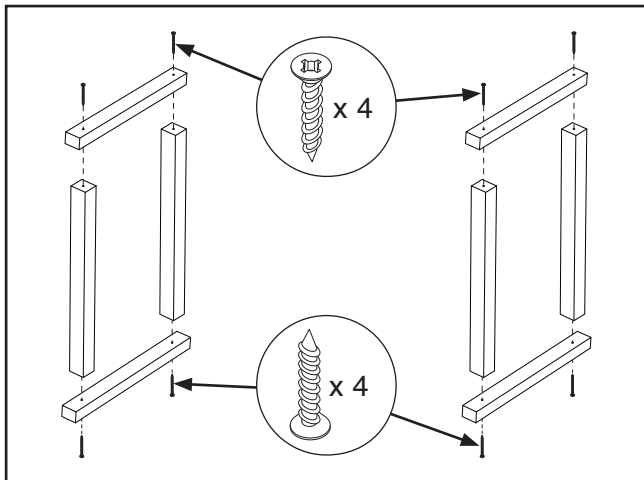

Figure 8. Assembling workbench legs.
7. Secure workbench leg crossbars to workbench legs using (8) M4 x 50 tap screws (see **Figure 8**).